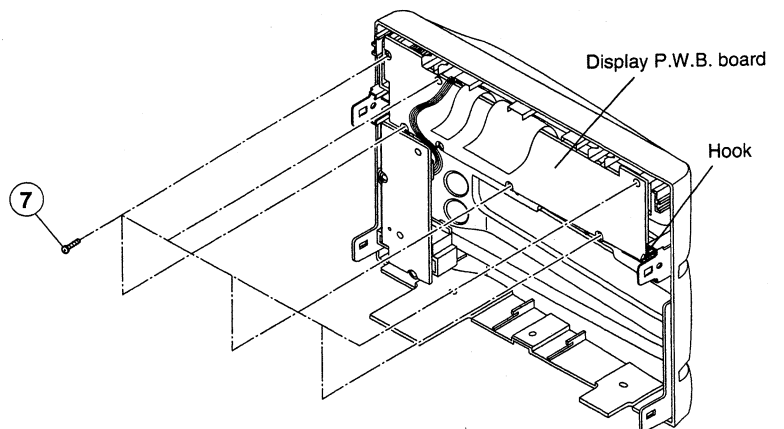

Fig. 20
- (1) Remove 1 screw ⑨ from (bottom of) front panel.
- (2) Remove the bottom chassis from the front panel by releasing the claws that hold the bottom chassis to the front panel together.
7. Removal of Display P.W.B. Board (Fig. 20)